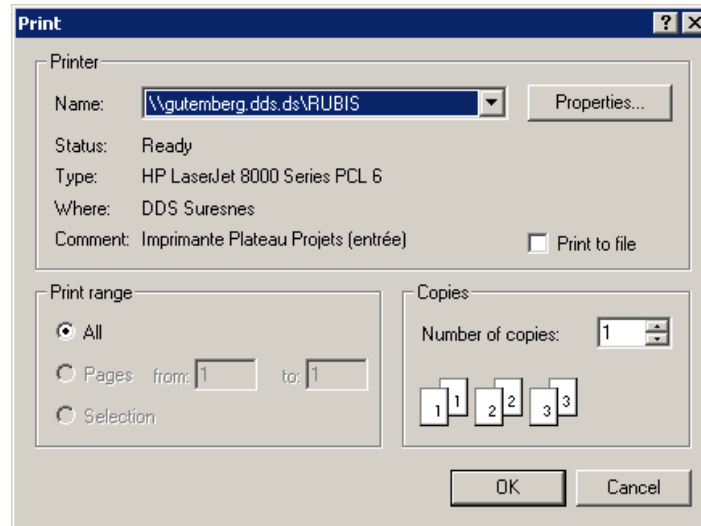

Figure 184 : Printing window
- ◆ The *Printing* window is displayed (Figure 184).